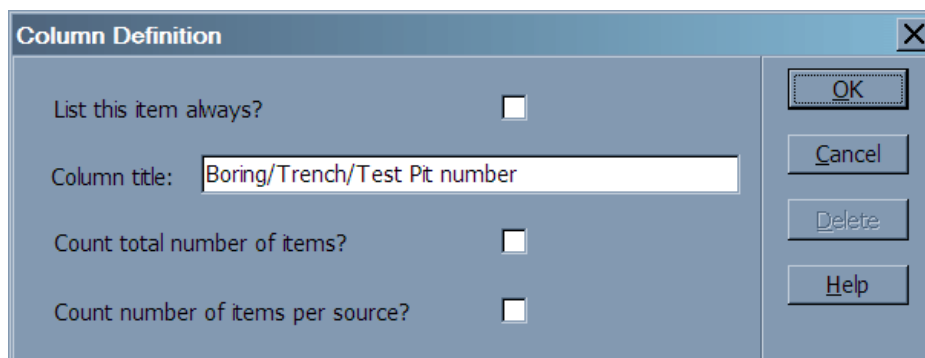

Figure 6.3: Column Definition Dialog
- > When an item is dropped onto the table box, the program will display the Column Definition dialog box, which will allow you to pick a title for the table column that will list your data (as shown in Figure 6.3).